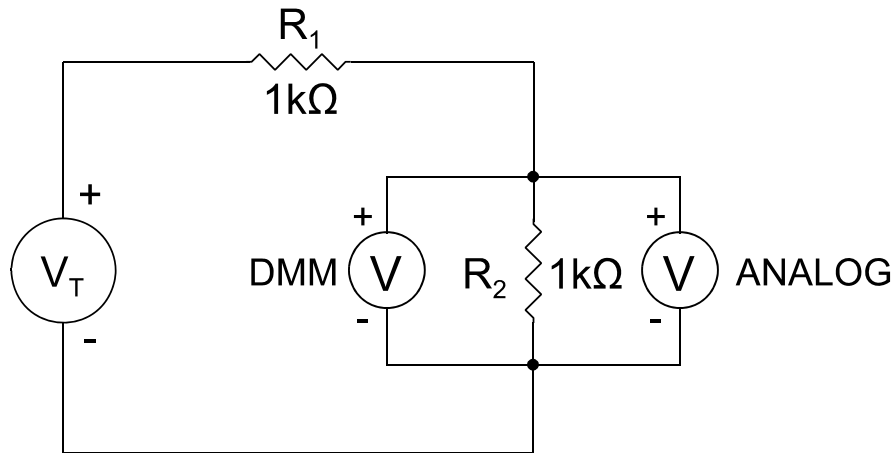

Figure 8-11
- B6. Use the analog voltmeter on the 10V range to measure the voltage drop across R_2 as shown in Figure 8-11. Record the DMM reading in Table 8-4.